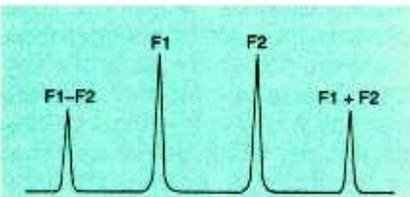
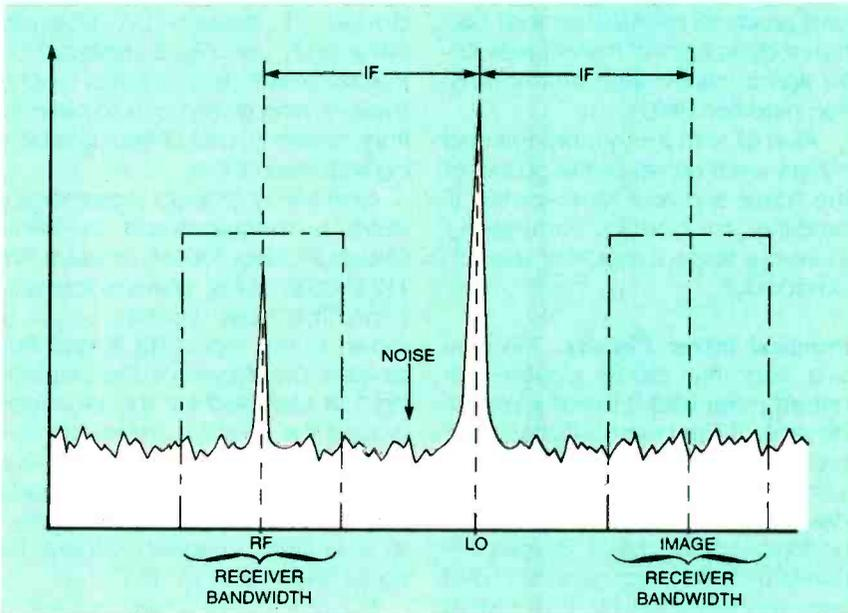

Fig. 2. It is commonly, and erroneously, assumed that the output spectrum of a mixer looks like the graph shown here.
Fig. 4. While the RF signal located at  $F_{LO} - F_{IF}$  is the desired one, an image signal located at  $F_{LO} + F_{IF}$  is also valid.
front panel can be anything you like. The layout of the author's prototype is shown in Fig. 4. If the leads to S1 will be over a few inches long or run close to AC or other video leads, it might be best to use 75-ohm shielded cable.
where  $F$  represents the output products,  $F_1$  and  $F_2$  are the two input frequencies, and  $m$  and  $n$  are integers (0, 1, 2, 3...). In any given circuit the mixer products may be out to several higher orders. It is commonly, and erroneously, assumed that the output spectrum looks like Fig. 2. Assume that the two inputs are  $F_1$  and  $F_2$ . The outputs will include  $F_1$ ,  $F_2$ ,  $F_1+F_2$  (sum frequency) and  $F_1-F_2$
**Mixer Problems.** One of the most common problems in using a mixer is the image response. Figure 4 shows how that works. The LO and RF are separated by the amount of the IF. Unfortunately, that means that there are two frequencies separated from the LO by the amount of the IF. In Fig. 4 the RF is located at  $F_{LO} - F_{IF}$ . Ideally, that is the only frequency that is received. But notice that  $F_{LO} + F_{IF}$  (the "image" frequency) is also valid. Any signal that appears at the image frequency will also appear to the receiver as a valid IF signal.
Typically, an AM BCB signal likes to see 10 kHz, an AM shortwave signal 6 kHz, an SSB signal 2.7 kHz, a land-mobile FM signal 5 kHz, and an FM BCB signal 200 kHz. Any signal that falls within the bandwidth will appear in the IF amplifier as a valid signal. Thus, all of the signals at  $F_{RF} - (BW/2)$ , i.e. around the RF signal in Fig. 4, and  $F_{RF} + (BW/2)$ , i.e. the image, will appear in the IF amplifier.
Notice in Fig. 4 that the baseline is not a nice clean line as it was in our ideal case of Fig. 2. Rather, there is a lot of noise in the system. The noise might be noise from the environ-
Note that the spectrums shown in Figs. 4 and 5 assume that there are only two frequencies present ( $F_1$  and  $F_2$ , or  $F_{RF}$  and  $F_{LO}$ ). That rarely occurs in real situations. In the radio receiver, for example, there are a lot of signals arriving at the antenna simultaneously. They can cause problems even if they are not situated at the RF and image frequencies (or at their phantoms around the harmonics of the LO). If a group or spectrum of signals appears at the RF input port, then all of them will be converted by the LO. In addition, they will beat against each other and produce new signals that also heterodyne against the local-oscillator signal. This is called intermodulation distortion (IMD)
output (as in Fig. 2). A single-balanced mixer will suppress either  $F_{LO}$  or  $F_{RF}$ , but not both. A double-balanced mixer, on the other hand, suppresses both  $F_{LO}$  and  $F_{RF}$  in the IF output, so the output only contains the sum and difference products. A well-designed DBM will also suppress the even harmonics of the LO and RF input signals.